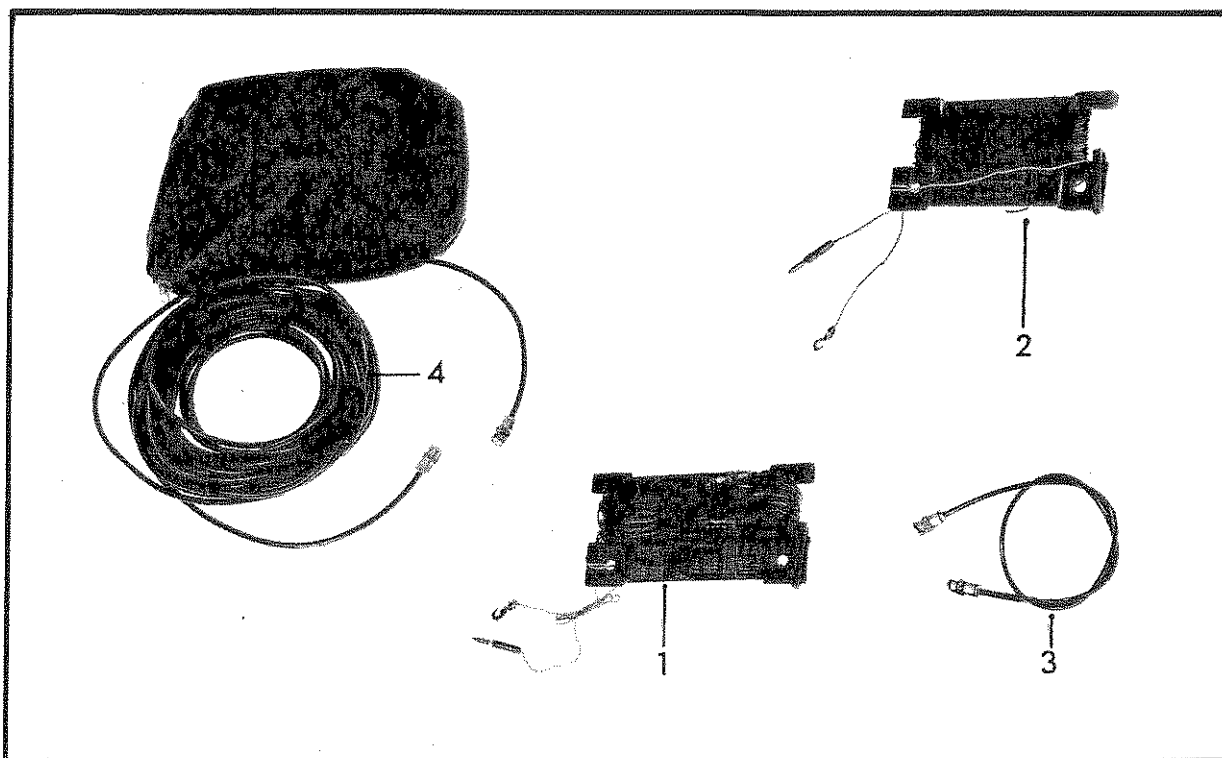

FIG 18
32. Antenna, AS-F3. (Fig 18, Item 1). This is an adjustable end-fed wire antenna. The radiating element is wound onto a light metal frame which is fitted with insulated ends. A plate affixed to the frame depicts the method of erection, and the required number of links to be made for a given frequency. The element is approximately 42 m long and
33. Antenna, AS-F4. (Fig 18, Item 2). This end-fed wire antenna is similar to the Antenna, AS-F3 except that it is non adjustable, in that the radiating element consists of one continuous section of wire approximately 13 m long.
34. Cable Assembly, Radio Frequency, CG-F1. (Fig 18, Item 3). This assembly comprises a coaxial cable 66 cm long fitted with a connector at each end. It is used to connect the radio frequency (rf) connector of the receiver transmitter to the rf connector of the Coupler Antenna, CU-F2.
35. Cable Assembly, Radio Frequency, CG-F2. (Fig 18, Item 4). This assembly comprises a coaxial cable approximately 15 m long fitted with a connector at each end. The cable is permanently attached to a zippered container bag. The assembly is used to make the same connection as the CG-F1 but by reason of its greater length permits the receiver transmitter to be operated at a distance from the coupler antenna.